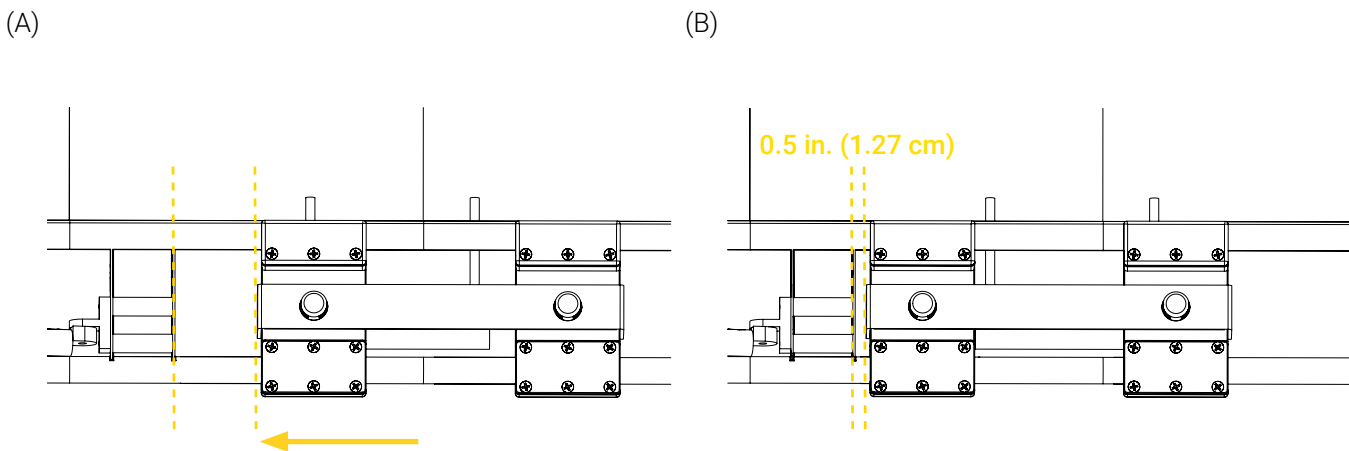

Figure 20: Positioning the clamp blocks and assembly jig
6. Move the clamp blocks and assembly jig 0.5 in. (1.27 cm) away from the stretcher frame towards patient head end (Figure 20).